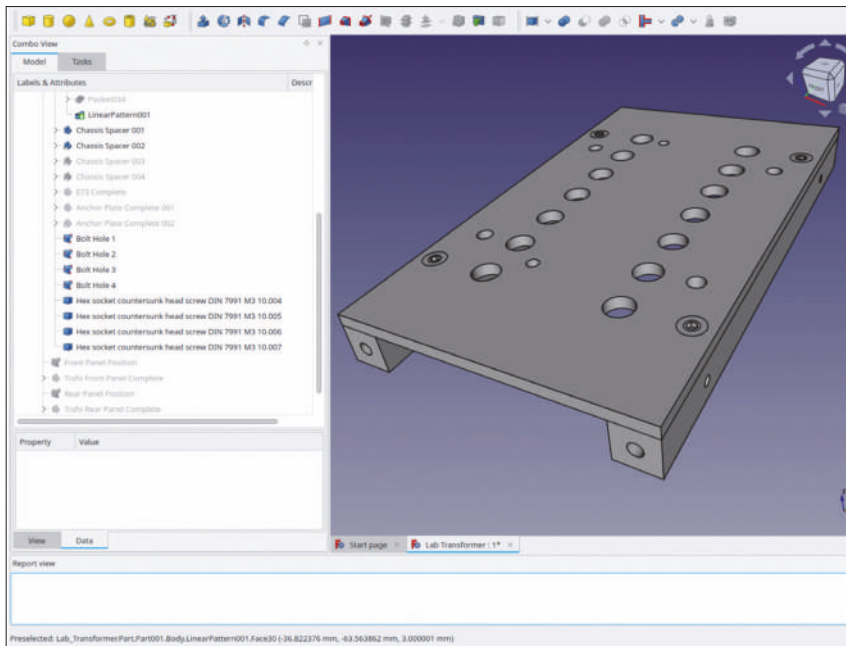

Figure 9-150
8. In the same way, attach the remaining screws to the other shape binders (Figure 9-150).